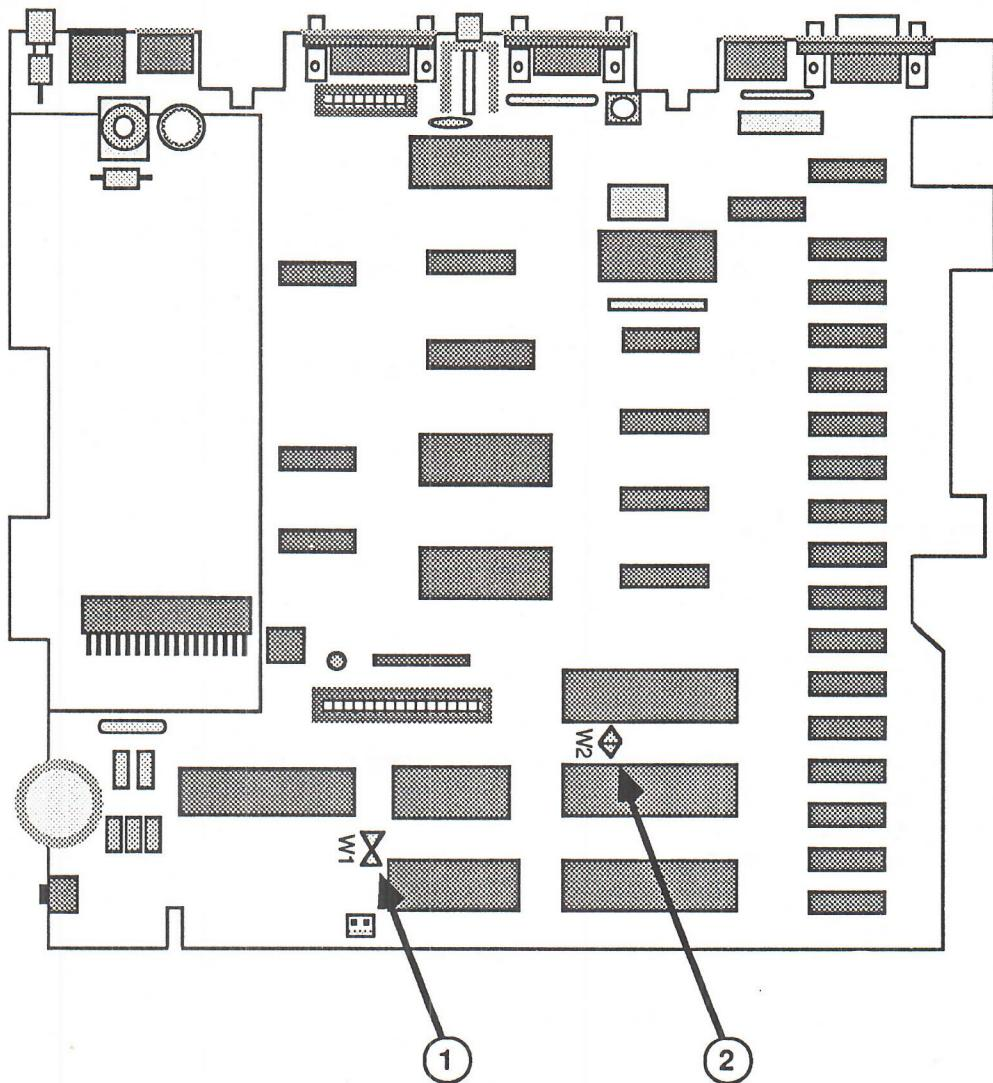
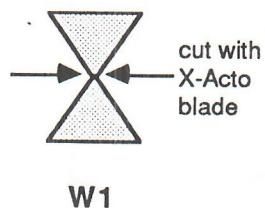
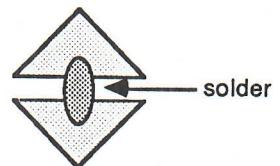

FIGURE 1
FIGURE 2
FIGURE 3
3. Locate the two triangles designated as **W1** on the main logic board (Figure 1, #1). Using the X-acto knife, cut through the juncture point of the two triangles, as shown in Figure 2. Be careful not to damage other parts or traces in the vicinity.
4. Locate the two triangles designated as **W2** (Figure 1, #2), and connect them with a soldering iron using a small drop of solder, as shown in Figure 3. (Refer to **Soldering Tips**, following this section.)
5. Locate the 28-pin I.C. designated as **MON** at location D19 on the logic board (Figure 1, #3). Carefully remove the **MON** I.C. using the I.C. extractor, and replace it with the new ROM. Make sure that pin 1 is oriented correctly by lining up the notch on the end of the I.C. with the white dot at the end of the socket. Make sure all pins are aligned with holes in the socket before applying pressure.